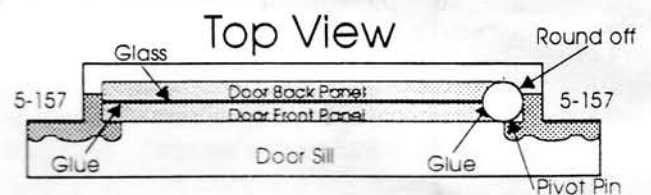
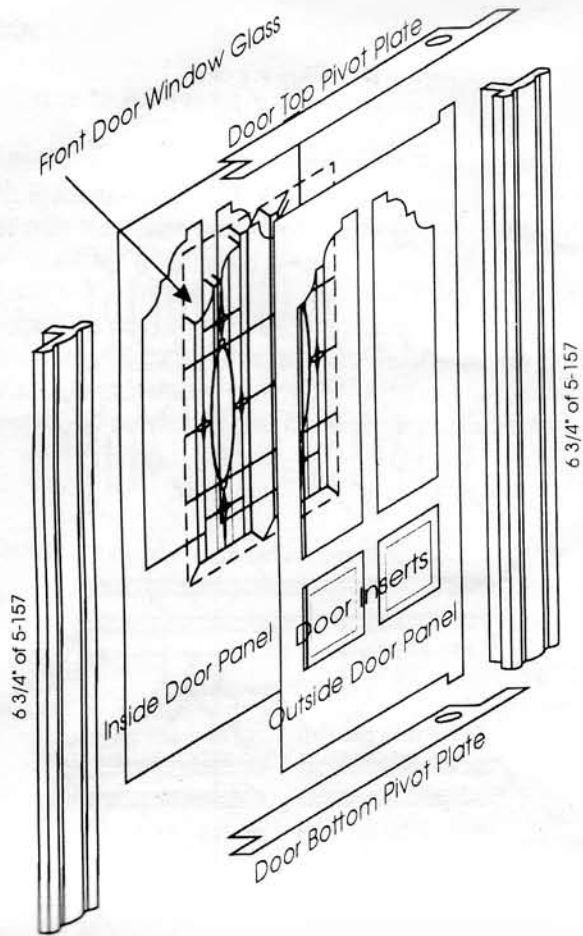

Figure 29
Figure 30
a. The top view in Figure 29 shows the Inside and Outside Front Door panels glued together with Front Door Window Glass installed between. It also shows the pivot edge of the door rounded to allow door opening. See also Figure 30.